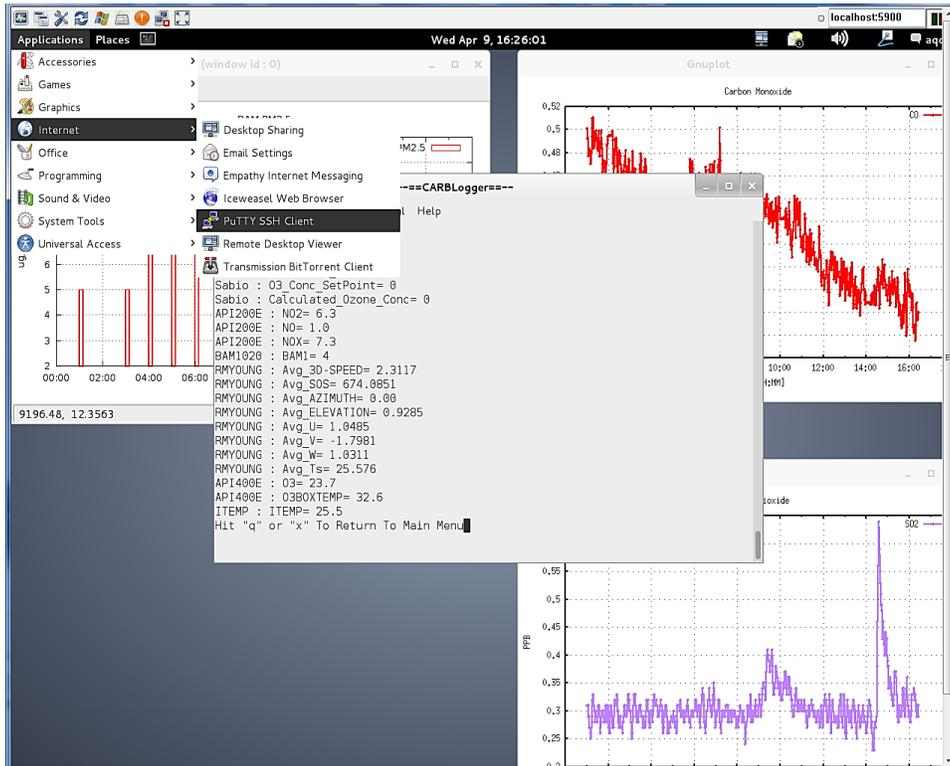

Figure C1: Locating the PuTTY SSH Client
- From the Gnome/CL desktop choose **Applications/Internet/PuTTY SSH Client**. Refer to Figure C1 below.
- From the Gnome/CL desktop choose **Applications/Internet/PuTTY SSH Client**. Refer to Figure C1.